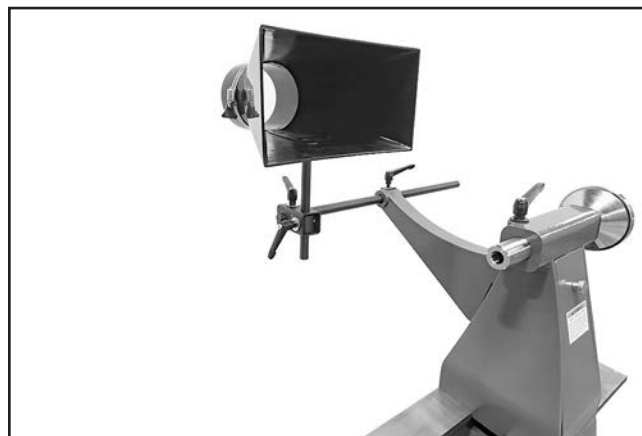

Figure 27. Dust hood assembly installed.
19. Loosen lock levers as needed and adjust dust hood assembly as desired, then tighten levers to secure (see **Figure 27**).